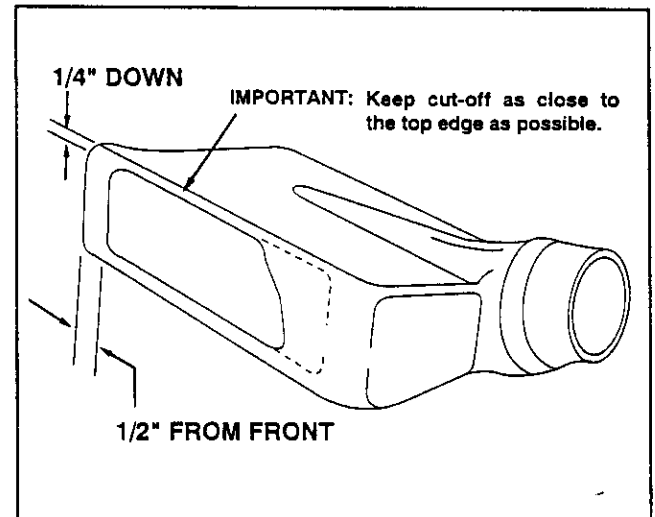

FIGURE 29
- Tape the template to the face of the adapter, locating template approximately 1/2" from front and 1/4" down from top of adapter. Keep as close to top as possible. See figure 29. Mark outline of template on face of adapter using white crayon, nail or scribe. Drill a starting hole inside the outline, then use a saber saw or key hole saw to cut out the opening. See figure 29.